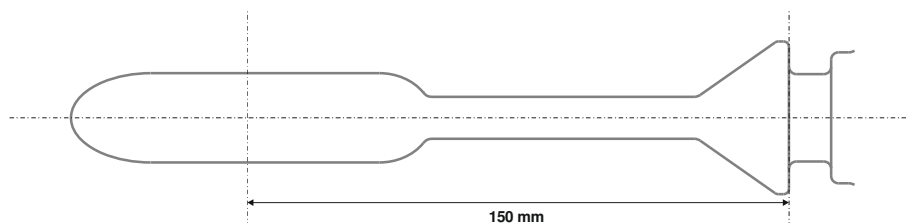

Figure 13: Distance between the center of the drop-shaped tip towards the end of the cone ring for condom fixation.
- The center of the drop-shaped tip has a distance of 150 mm to the end of the cone ring for condom fixation (see Figure 13).